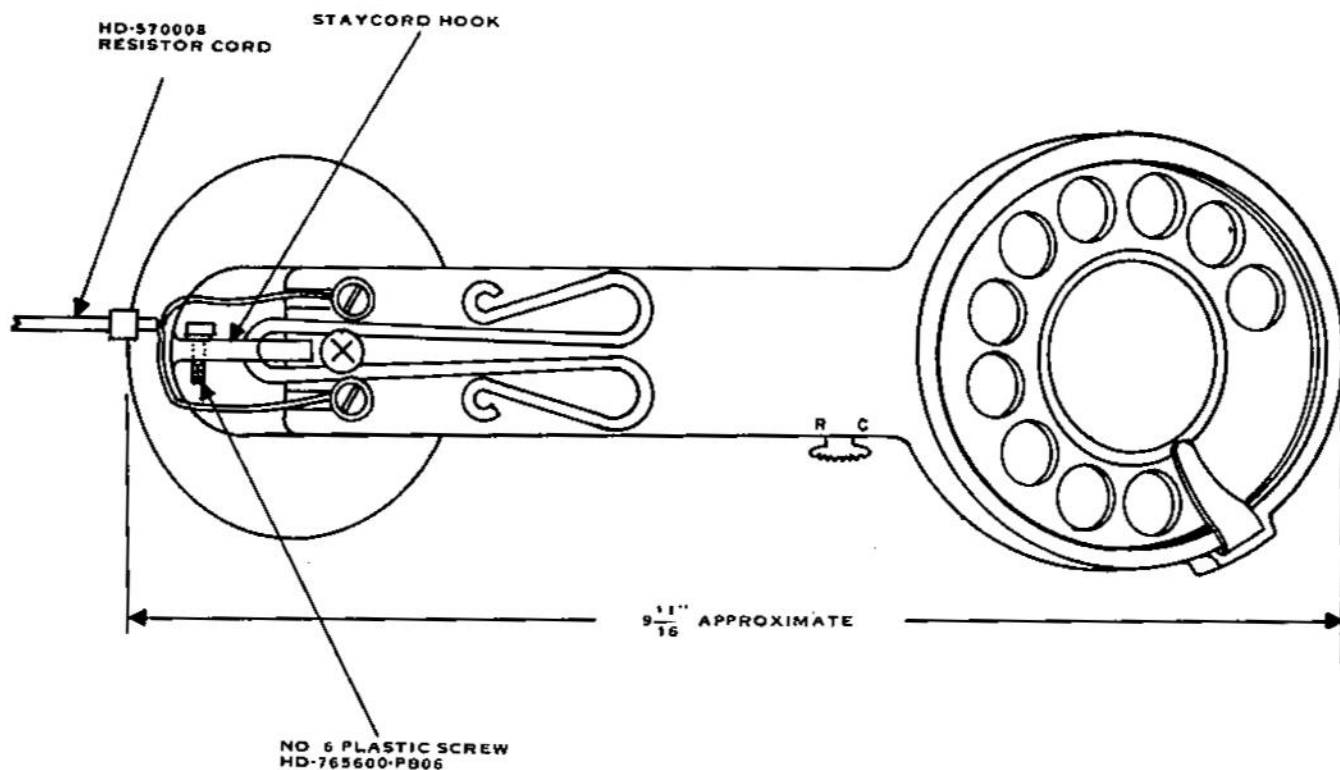

Figure 3. Modification for Resistor Plug Addition.
- Drill a 0.116-inch pilot hole for a No. 6 plastite screw (HD-765600-PB06). (Refer to Figure 3.)